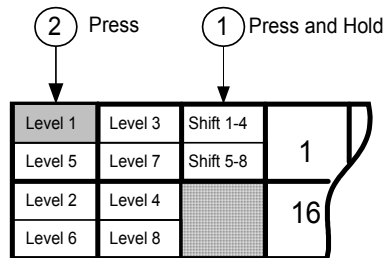

Figure 4-5 Panel Lock Sequence
- The user **Locks** the panel (Reference Figure 4-5) by *pressing and holding* the **Level Shift Button** and then *pressing* the **Level 1 Button** in sequence.